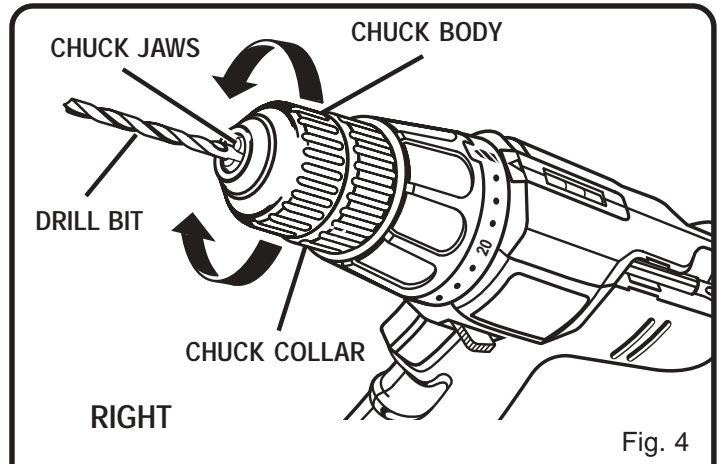

Fig. 4
See Figures 4 and 5.
- Insert drill bit straight into chuck the full length of the jaws. See Figure 4.
See Figure 4.
- Locate latches on side of battery pack and depress both sides to release battery pack from your drill. See Figure 4.